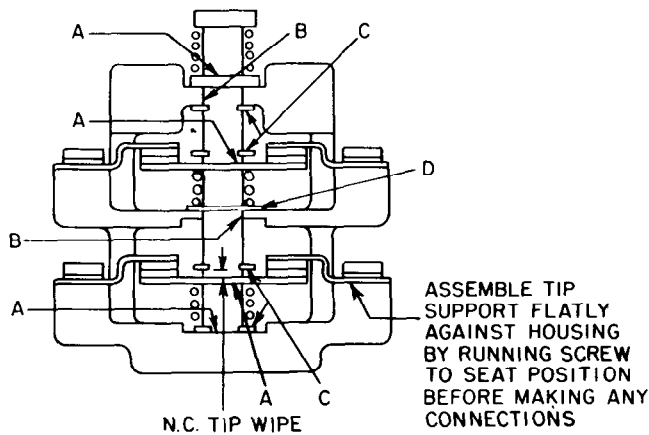
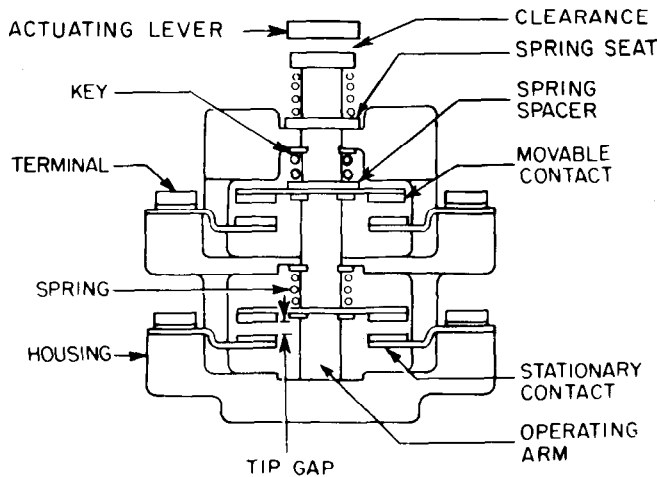
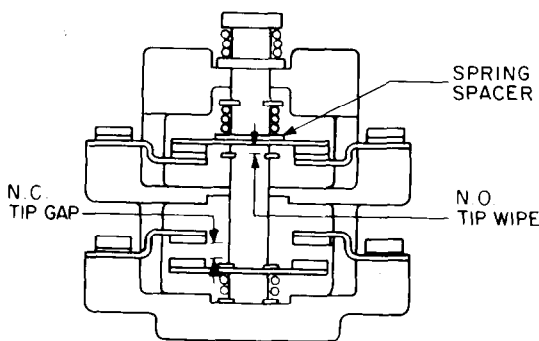

Fig. 6. Interlock block with normally closed contacts in unoperated position.
Fig. 7. Interlock block with normally open contacts in unoperated position.
Fig. 8. Interlock block with one set of normally open contacts and one set of normally closed contacts in operated position.
The new-type electrical interlock is used on all the Y100 and Y120 series contactors as well as 1170 series. It consists of a contact block having two electrical circuits. The internal parts can be rearranged to give different contact arrangements. Should this be necessary, the parts should be re-assembled in accordance with Figs. 6, 7 or 8. Spring ends must not protrude into
holes (A), slots (B), or keys (C), which serve as guides for the operating arm. See Fig. 6.
Contact blocks with two normally closed circuits require a spring spacer, (D) in Fig. 6, to assure that the center spring is properly in place. Because of the circuit rearrangement feature, a spring spacer is supplied with all other two-circuit contact blocks, as shown in Figs. 7 and 8.
The interlock should be positioned on its bracket so that with the contactor in its energized position the operating arm (Fig. 8) should not bottom, and with the contactor in its de-energized position there should be some clearance between the operating arm and the actuator on the armature (see Fig. 7).
normally closed contact on the bottom (see Fig. 8) or electrical creepage distances will not be maintained.